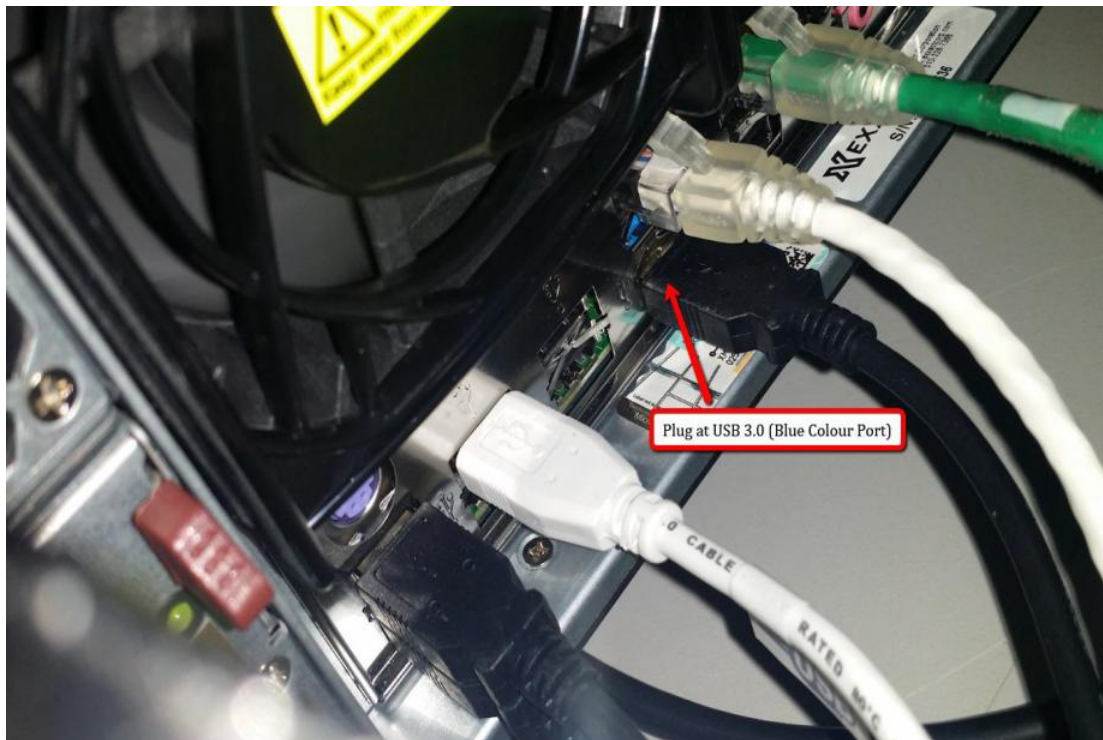

Figure 10 Rear side of Master controller (USB 3.0 Port)
9. The other end of the PSP 2 CAMERA CABLE may connect to Master Controller (USB PORT 3.0 Blue Color) as below Figure 10.